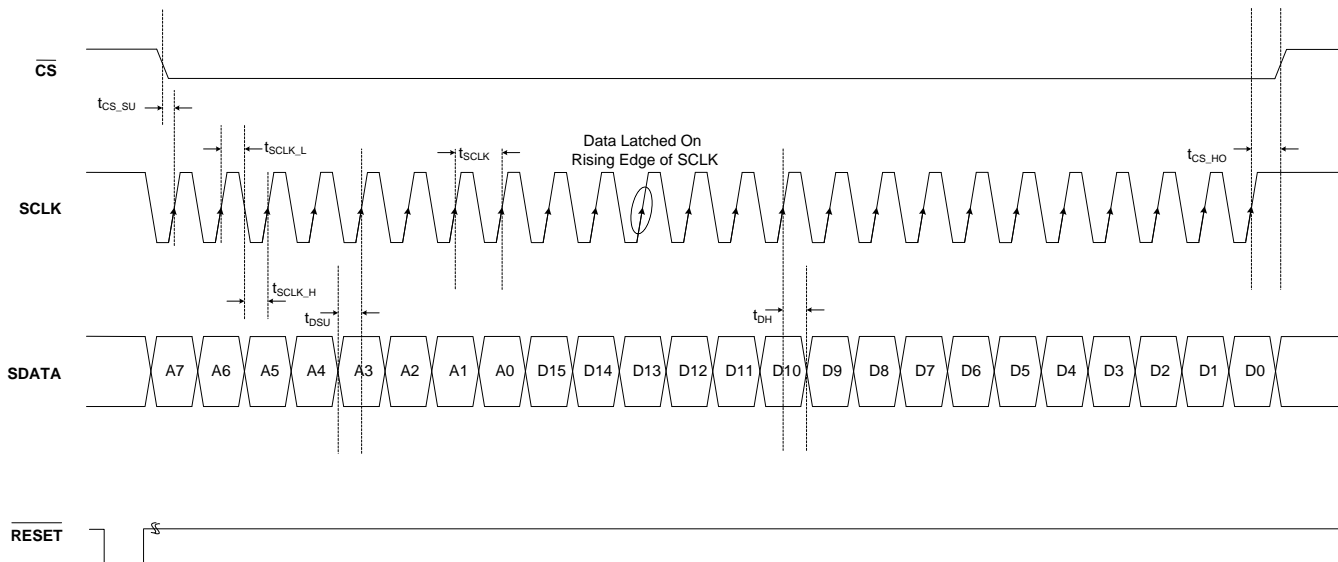
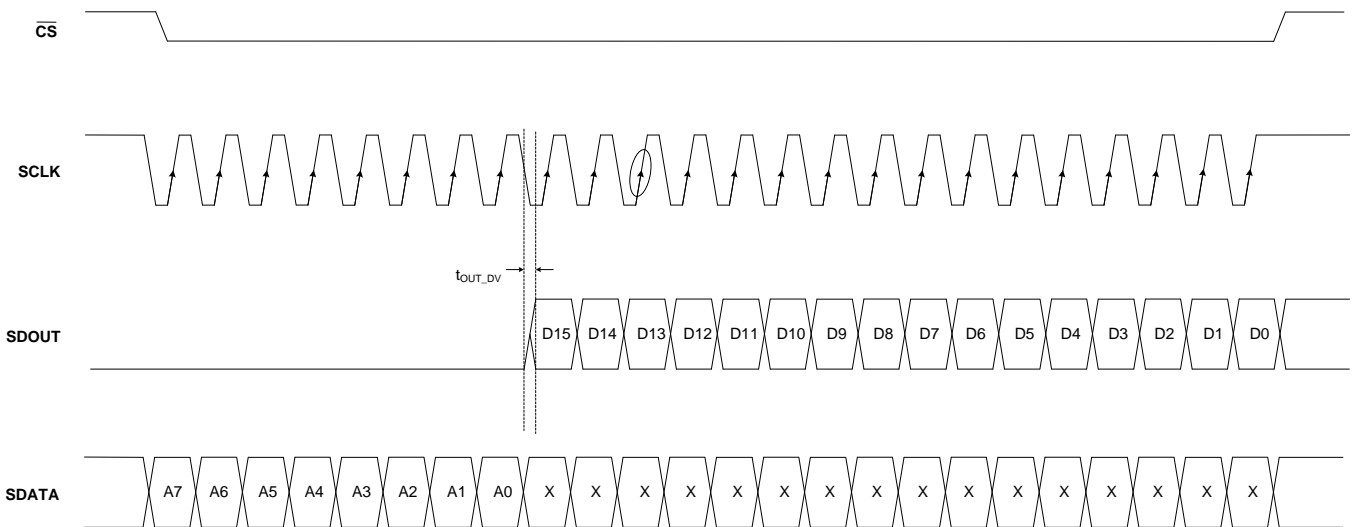

Figure 74. Serial Interface Write Timing Diagram
Figure 76. Serial Interface Read Timing Diagram
1. Either through a hardware reset by applying a low pulse on the  $\overline{RESET}$  pin (of widths greater than 50 ns), see Figure 74; or
Table 7. Timing Characteristics for Figure 74 and Figure 76(1)
(1) Typical values are at  $T_A = +25^\circ\text{C}$ , minimum and maximum values are across the full temperature range of  $T_{MIN} = -40^\circ\text{C}$  to  $T_{MAX} = +85^\circ\text{C}$ , unless otherwise noted.
(2) See Figure 76.
To exit serial readout mode, reset the EN\_READOUT register bit to '0', which enables writes to all device registers. At this point, the SDOUT pin is in 3-state. A detailed timing diagram for the serial readout mode is shown in Figure 76.